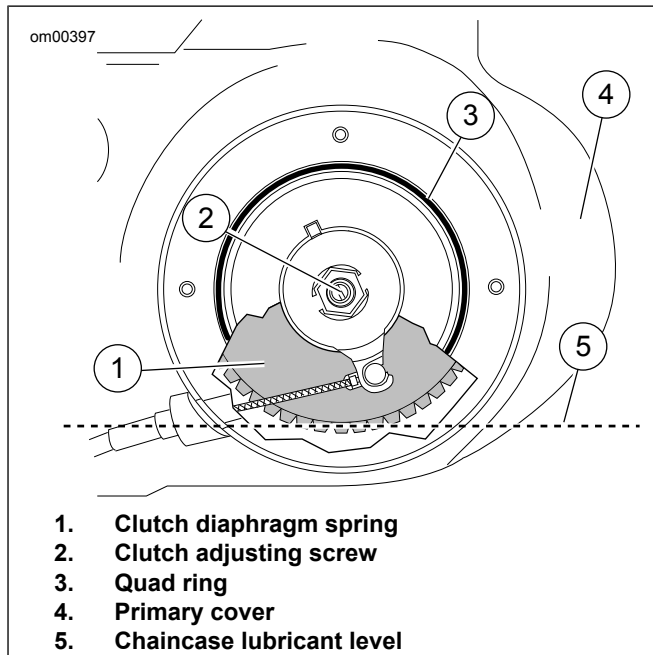

Figure 47. Chaincase Lubricant Level
6. See Figure 47. Verify that lubricant level is even with bottom of clutch diaphragm spring.
11. See Figure 47. Add FORMULA+ TRANSMISSION AND PRIMARY CHAINCASE LUBRICANT through clutch inspection cover opening until the lubricant reaches the bottom of clutch diaphragm spring.